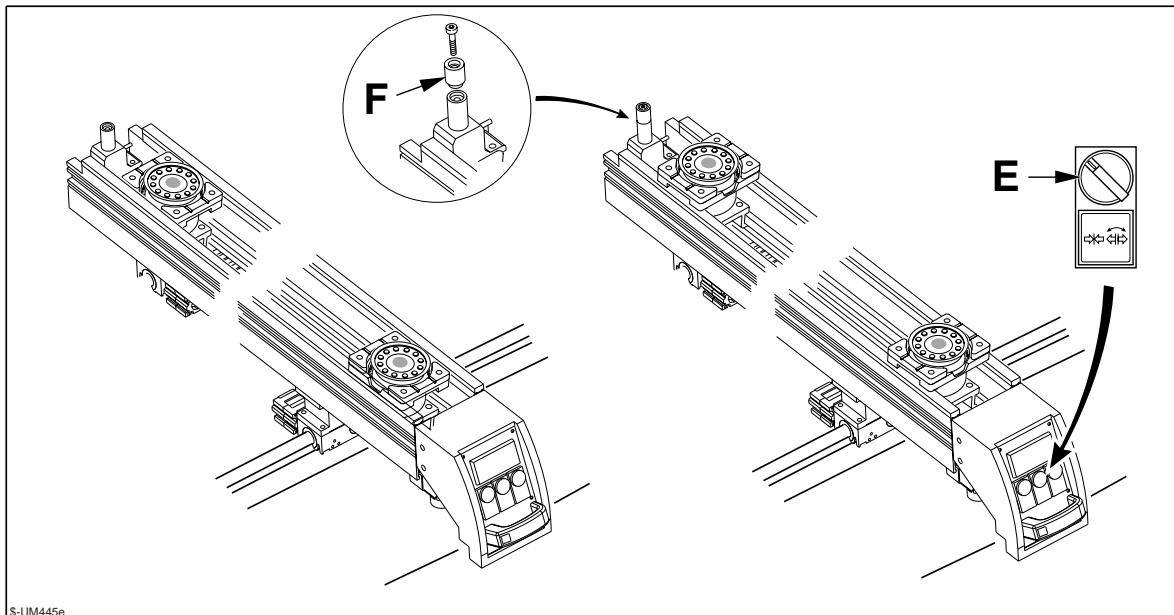
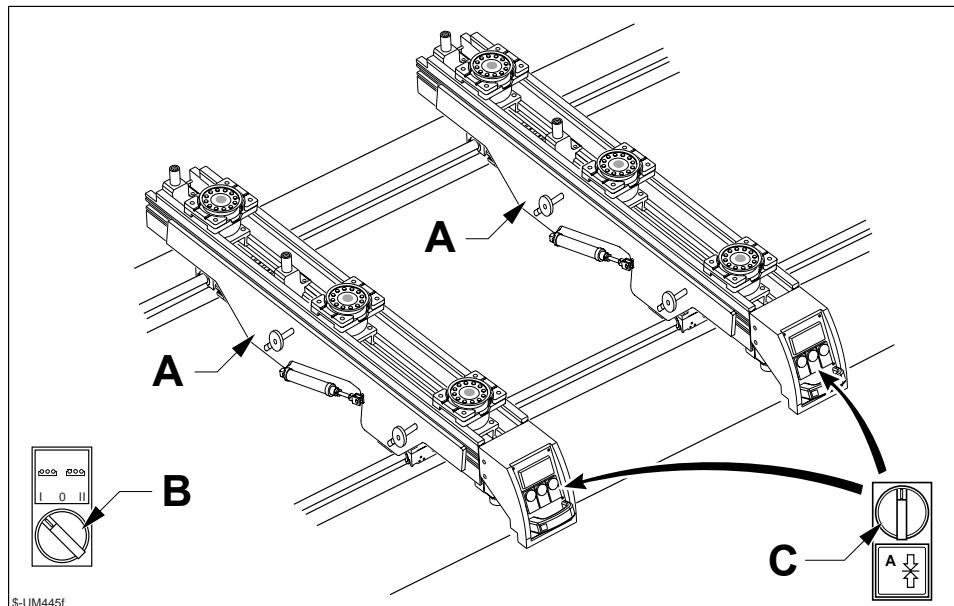
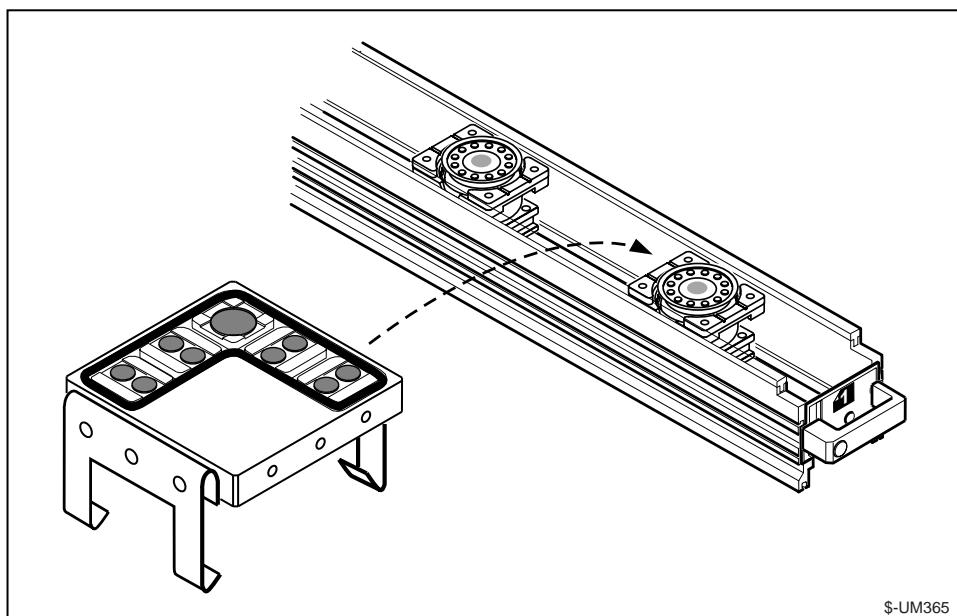

Fig. 3.9b
Fig. 3.9d
Fig. 3.10
- Slide the suction cup along the table guides (fig.3.9b)
With the lifting suction cups (fig. 3.9b) or the trimming spacers (fig. 3.10) the loading aid bars A can be present on the work tables (fig. 3.9d).